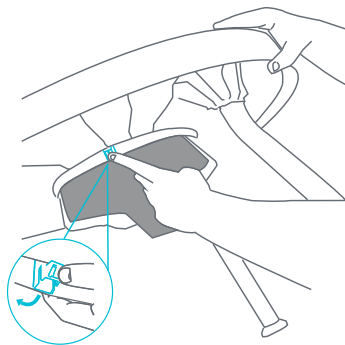

Fig. 6a
- 6 • To remove the seat, lift tabletop to expose one of three tabs underneath. Detach one of the tabs by pushing it off the tabletop (Fig. 6a).